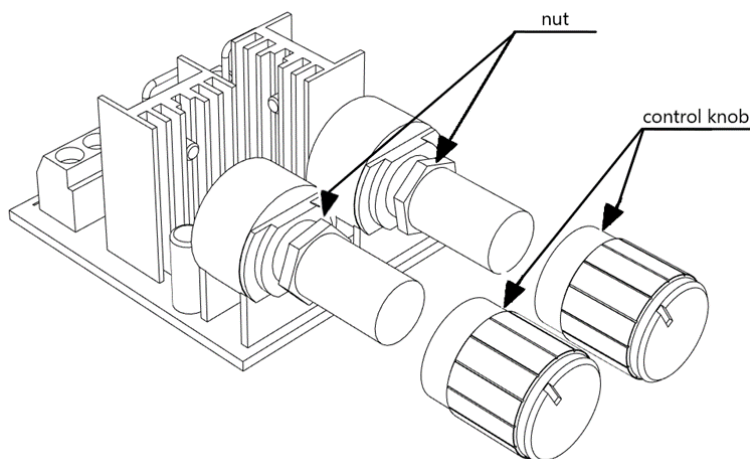

Fig. 1: Old dimmer
- 2) Pull out the control buttons (see Fig. 1).